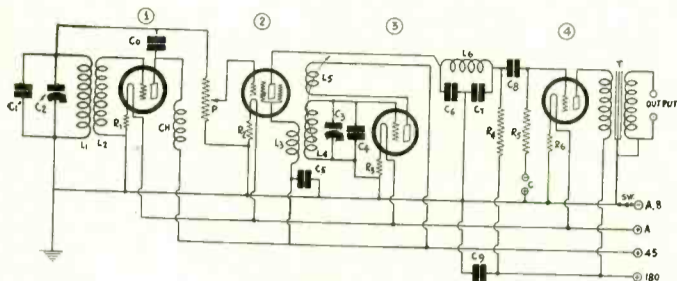

FIG. 102
The circuit diagram of one such arrangement is shown in Fig. 102. It comprises two radio frequency oscillators, (1) and (3), a detector, (2), and a power amplifier, (4).